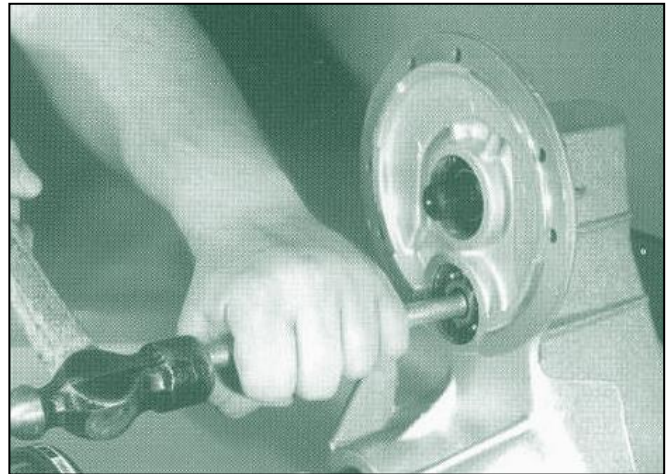

Figure 7-11
13. See Figure 7-11. Using a brass drift pin, drive the intermediate shaft (9) from the flange side of housing. Shaft should travel far enough to allow engagement of I.D. bearing puller.